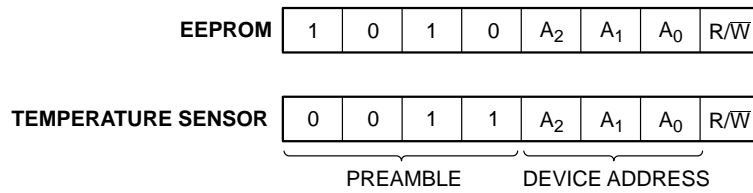

Figure 21. Slave Address Bits
The Master initiates data transfer by creating a START condition on the bus. The Master then broadcasts an 8-bit serial Slave address. The first 4 bits of the Slave address (the preamble) select either the Temperature Sensor (TS) registers (0011) or the EEPROM memory contents (1010), as shown in Figure 21. The next 3 bits, A2, A1 and A0, select one of 8 possible Slave devices. The last bit,  $R/\overline{W}$ , specifies whether a Read (1) or Write (0) operation is being performed.